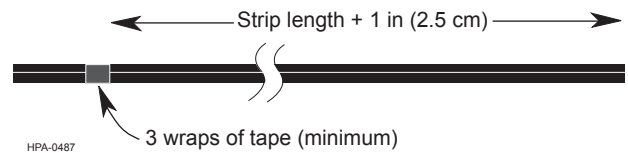

Figure 2
Step 2: Mark the cable at the appropriate distance, plus 1 inch (2.5 cm), from the cable end with at least three wraps of tape (Figure 2). *These wraps will permanently remain on the cable.*